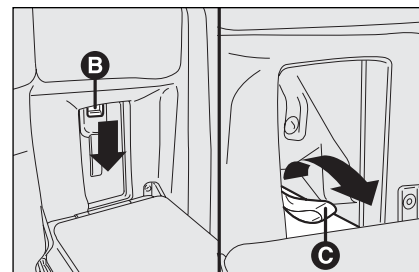

fig. 117
- press handle **B**-fig. 117 and lower the flap. To close the flap pull tongue **C**.